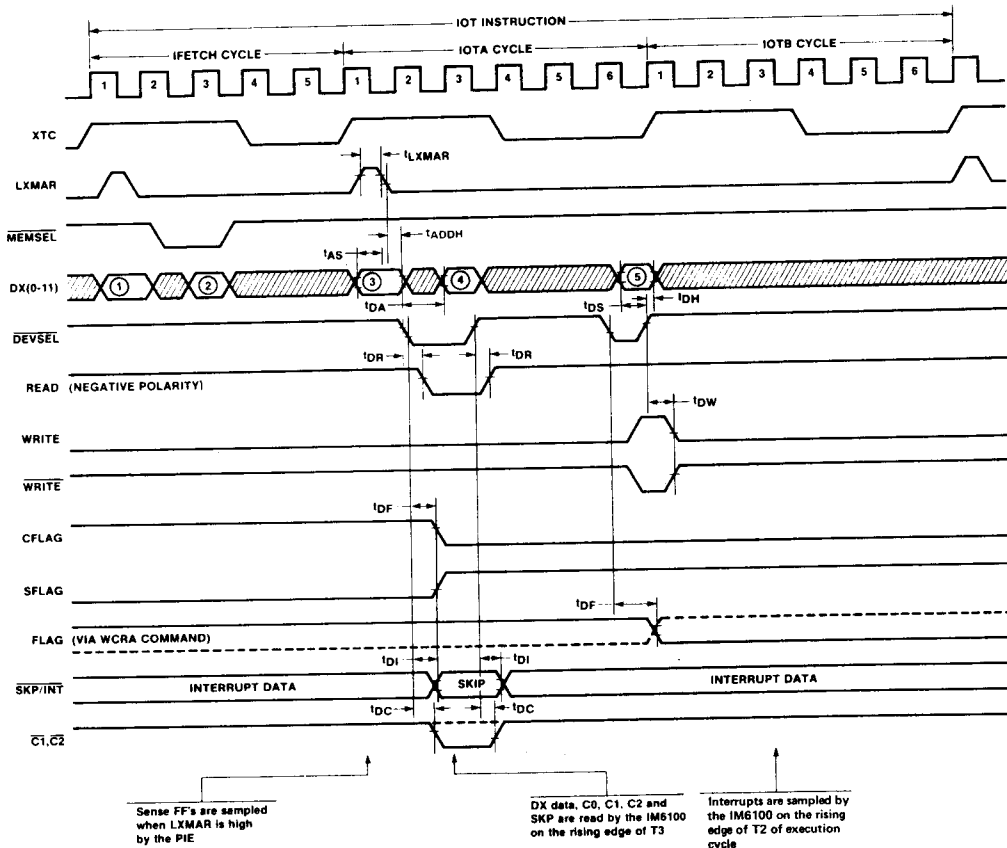

FIGURE 2. IM6101 PIE Timing Diagram.
Note: See Figure 2 for an A.C. Timing Diagram.
Timing for a typical IOT transfer is shown in Figure 2. During the IFETCH cycle, the processor obtains from memory an IOT instruction of the form 6XXX. During the IOTA cycle the processor places that instruction back on the DX lines ③ and pulses LXMAR transferring address and control information for the IOT transfer to all peripheral devices. A low going pulse on DEVSEL while XTC is high ④ is used by the addressed PIE